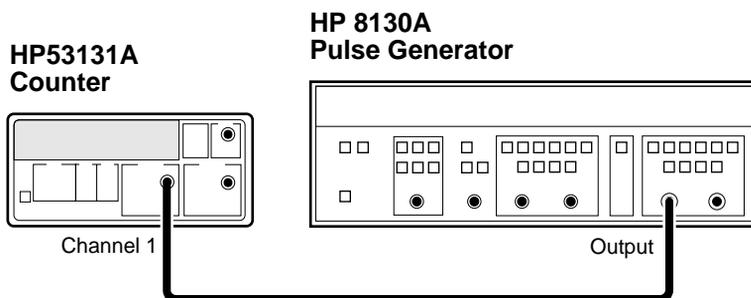

Figure 2-3. TI Calibration Setup
- 3 **Connect the HP 8130A Pulse Generator output to Channel 1 of the Counter as shown in Figure 2-3.**